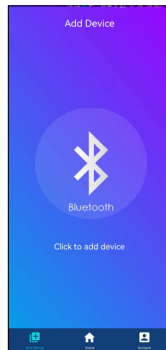

Fig. 2
**Step 4.** Tap the access mode Bluetooth (fig.2). Enter access details as needed.